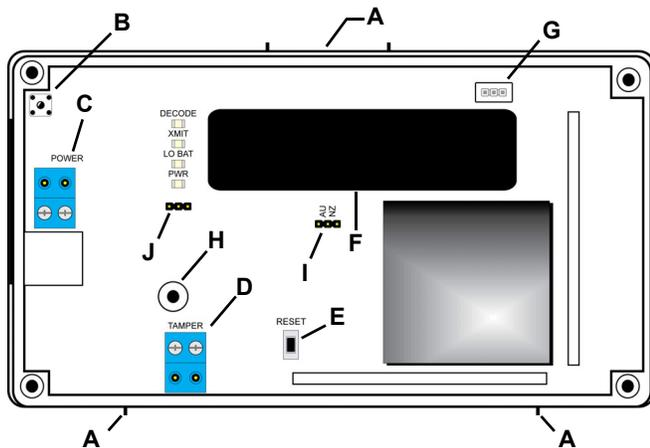

Figure 3 High power repeater internal components
6. Use a small screwdriver to press the housing release tab on the top or bottom of the high power repeater (Figure 3); separate the housing.
7. Connect power cabling (Figure 3).